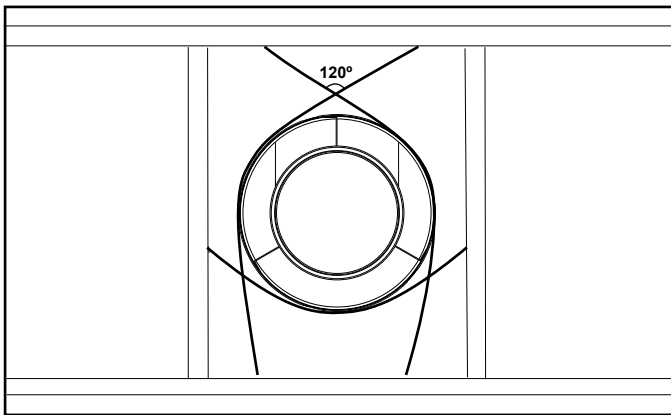

Figure 7.5 Securing Vertical Pipe Sections
- Vent supports or plumbers strap (spaced 120° apart) may be used to support vent sections. See Figures 7.5 and 7.6.